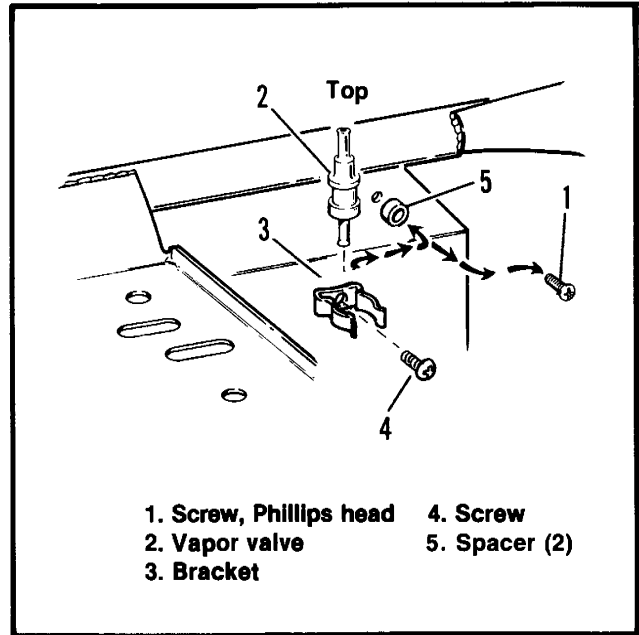

Figure 4-42. Vapor Valve Mounting
3. Place canister (5), with top hose fittings pointing left, into canister bracket (1). Align slotted hole in hold down bracket (6) with center hole in canister bracket (1). Move bracket (6) against top of canister (5), then insert screw (7) through bracket (6) and thread into hole in canister bracket.
4. See Figure 4-42. Remove the front reservoir mounting screw (1) from inside compartment under seat and discard. Position two spacers (5) and bracket (3) over hole and secure with screw (4). Press vapor valve (2) into bracket (3) making sure long fitting end of valve is "up" and center groove on valve seats firmly in bracket.